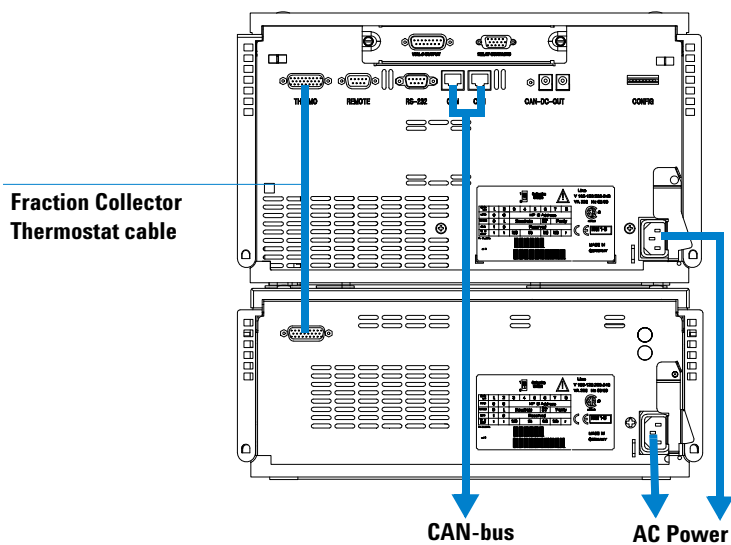

Figure 10 Connections at the Rear of the Thermostatted Fraction Collector
- 14 Connect the cable between the Fraction Collector and the thermostat, see Figure 10 on page 30.